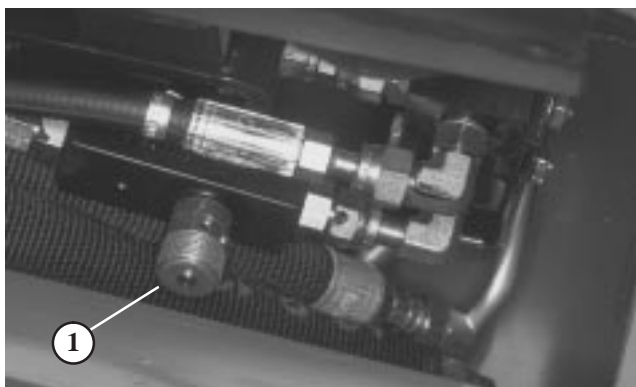

Figure 65
1. Raise hood and locate valve on left rear side of machine (Fig. 65).